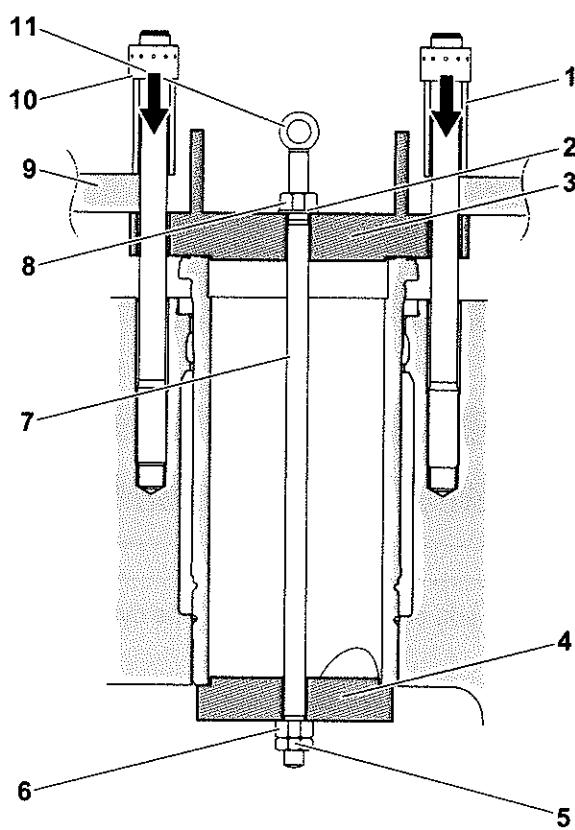

Fig.4 Assembling the cylinder liner
3. Install the special tools as shown in Fig. 4.